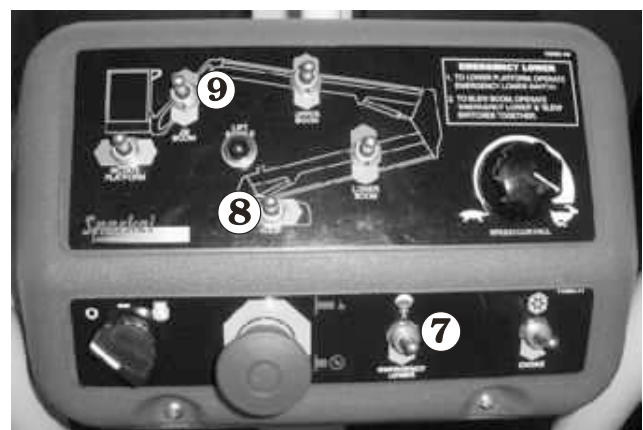

Figure 9.4
7. Hold the **Emergency Lower** switch ⑦ (see Figure 9.4) down and the platform will begin lowering.
8. To lower the jib boom, operate the **Emergency Lower** switch ⑦ and the **Jib Boom Lower** ⑧ switches together (see Figure 9.4).
9. To slew the boom, operate the **Emergency Lower** ⑦ and **Slew** ⑨ switches together (see Figure 9.4).